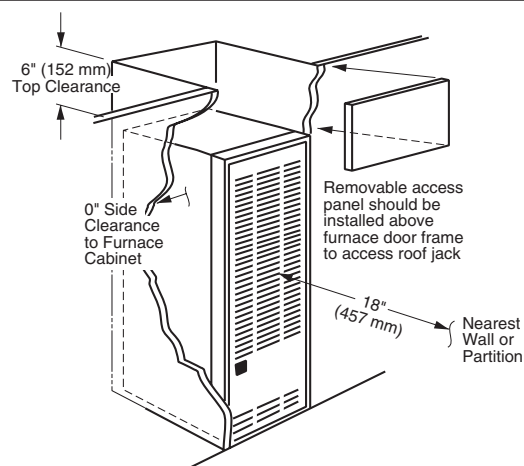
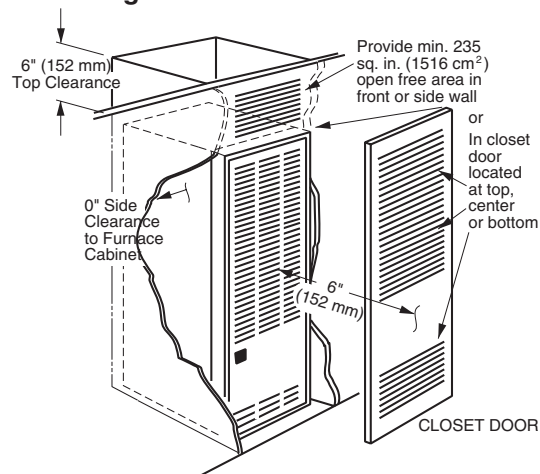
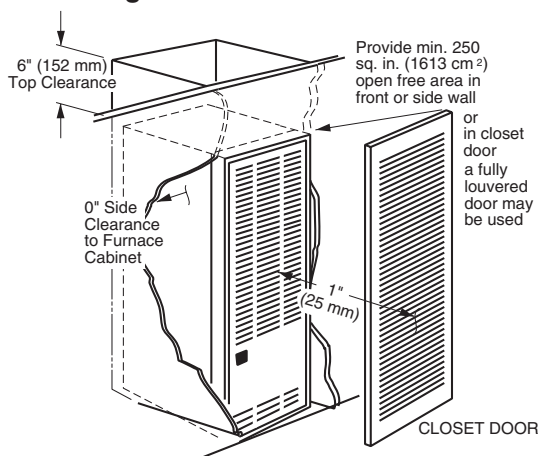

Figure 1. Alcove Installation
Figure 2. Closet Installation
Figure 3. Special 1" Clearance
This heating appliance must be installed with clearances not less than the minimums listed in Table 1, \(page 5\). This furnace must be installed with ample clearance for easy access to the air filter, blower assembly, burner assembly, controls, and vent connections. See Figure 1, Figure 2, and Figure 3 \(page 5\).
- The dimensions of the room or alcove must be able to accommodate the overall size of the furnace and the installation clearances listed in Table 1, \(page 5\) and Figure 1 \(page 5\)